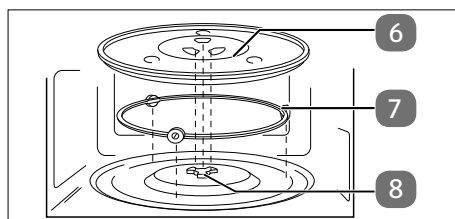

Fig. 3 – Inserting the glass turntable
- ▶ Do not use the microwave without properly installing the glass turntable (6).
- ▶ Check that the drive shaft (8) is correctly inserted in the recess on the base of the cooking compartment and that its wings rest flat on the base. If necessary, turn the drive shaft (8) until it sinks into its correct position.
- ▶ Place the roller ring (7) in the recess in the cooking area and then place the glass turntable (6) centrally on the drive shaft (8) (see “**Fig. 3 – Inserting the glass turntable**”) so that the webs of the glass turntable (6) lie between the wings of the drive shaft.